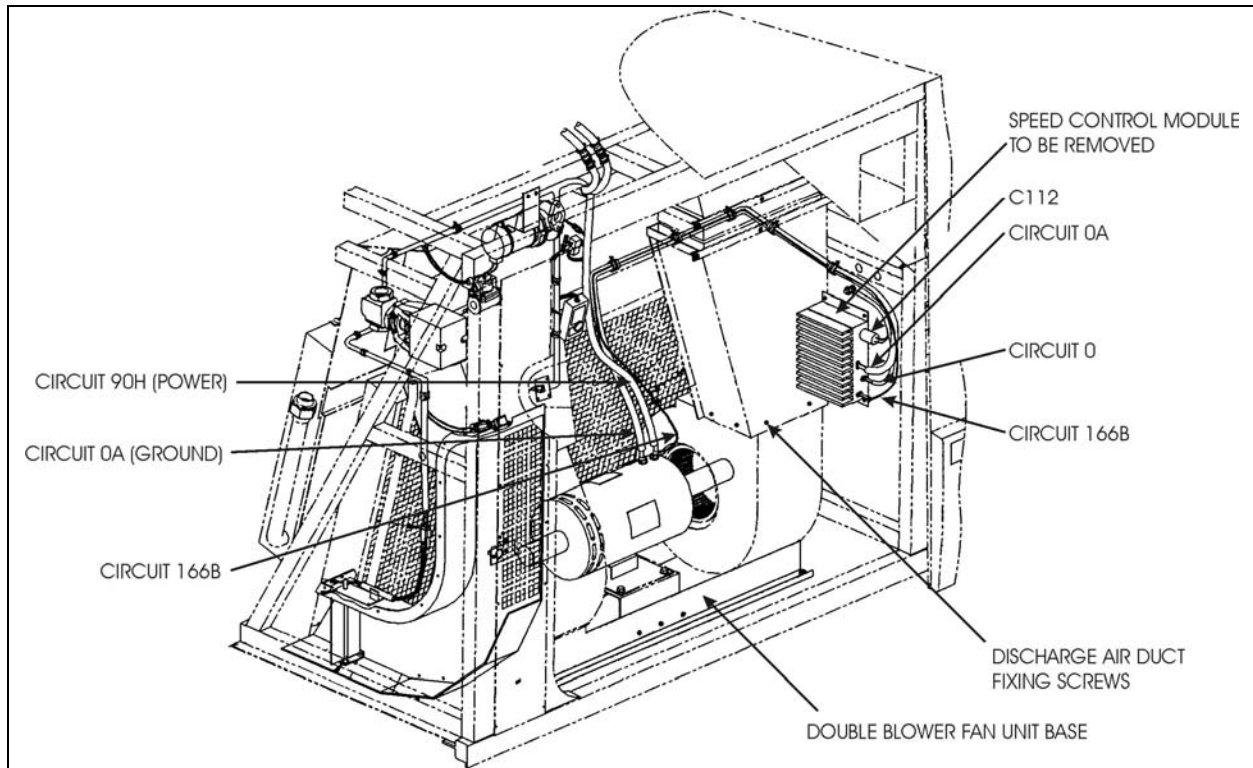

FIGURE 1: EVAPORATOR COMPARTMENT
This instruction sheet is applicable for H3 series vehicle having the "black box" speed control module (see figure 1). For later vehicle version, simply switch the drive motor.
2. Disconnect cables 0A, 90H & 166B from motor electrical terminal plate (figure 1).
3. Unfasten all screws fixing discharge air ducts to blower fan unit (figure 1).
4. From under vehicle, unfasten eight (8) bolts retaining double blower fan unit base to vehicle.
5. Remove double blower fan unit complete with base (figure 1) from evaporator compartment.
9. Disconnect cables 0, 0A, 166B & connector C112 from speed control module (figure 1).
10. Remove speed control module (figure 1).